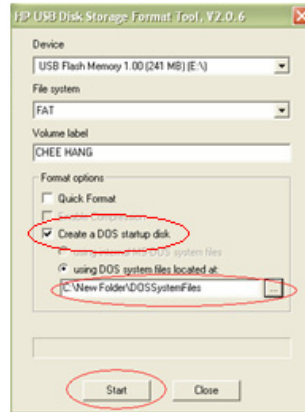

Figure 5-2 Create a DOS startup disk
- v Select the **Create a DOS startup disk** check box and type in C:\New folder\DOSSystemFiles as shown in **Figure 5-2**. Select **Start** to start formatting